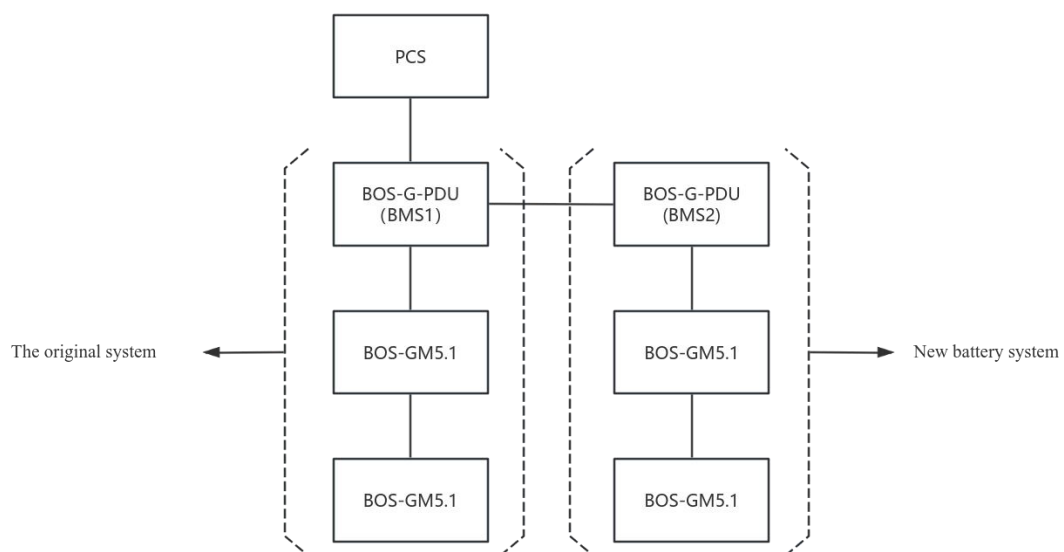

Figure2 Network diagram
Step 1: Verify the battery serial number (SN). If the manufacturing date difference between the new and old batteries is within two years, capacity extension is allowed.
Step 5: Please attach a terminal resistance to the out port of the last HV box when confronting a parallel communication issue. (The last HV box is BOS-G-PDU(BMS2) as figure 2)